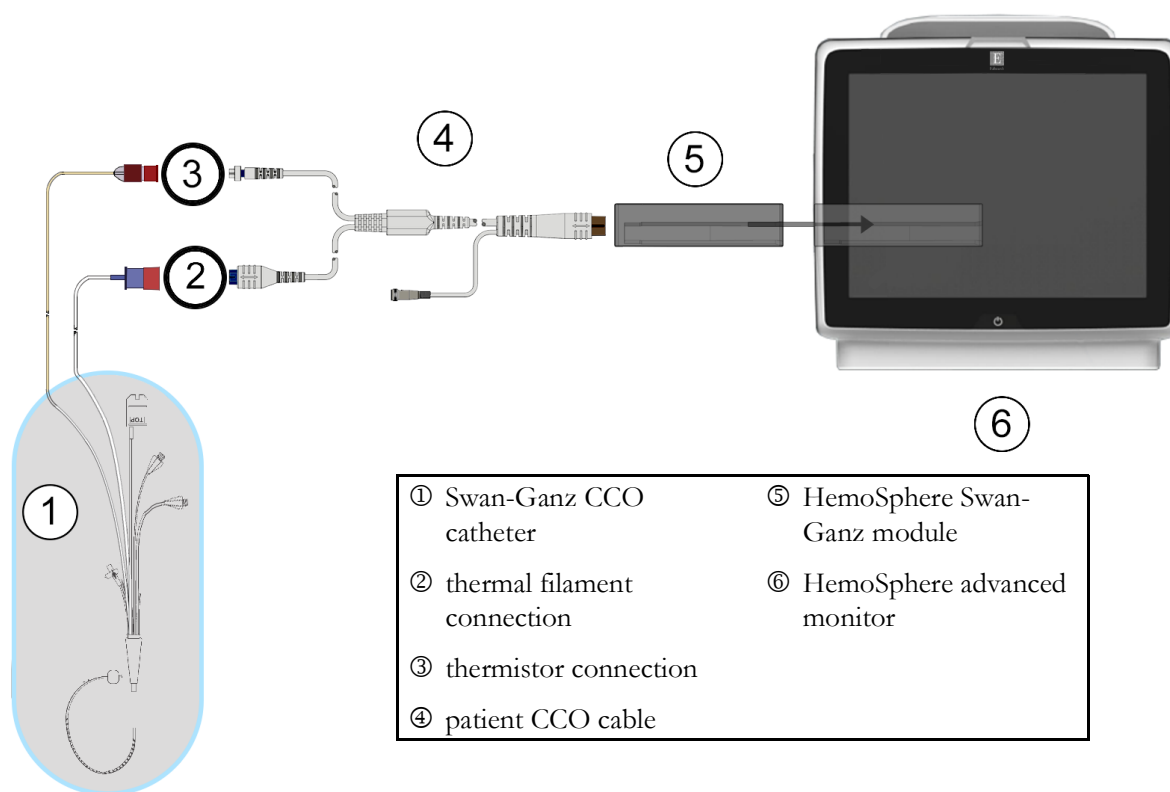

Figure 9-3 CO connection overview
- 2 Attach the catheter end of the patient cable to the thermistor and thermal filament connectors on the Swan-Ganz CCO catheter. These connections are emphasized as numbers ② and ③ in figure 9-3 on page 122.